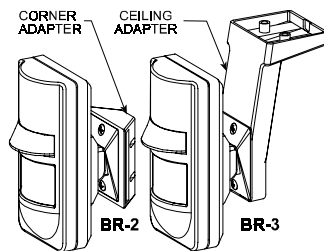

Fig. 5. Hunter with BR-2 / BR-3
**BR-2** - corner mounting swivel bracket (see Fig. 5).
**BR-3** - ceiling mounting bracket (see Fig. 5).